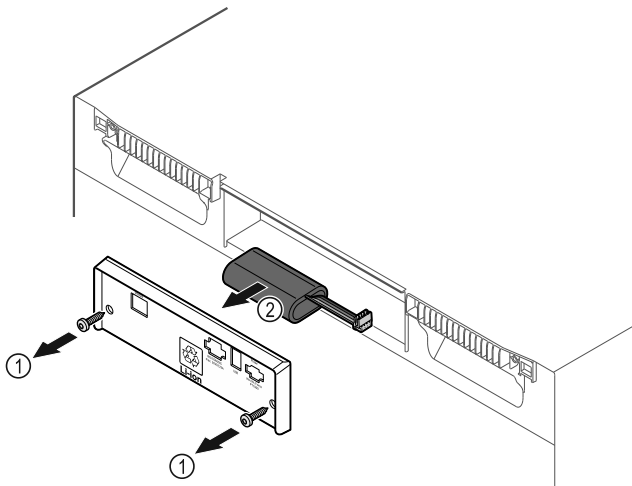

Fig. 197
- ▶ Unscrew screws and remove cover from the back of the appliance Fig. 197 (1).
- ▶ Disconnect and remove battery Fig. 197 (2).